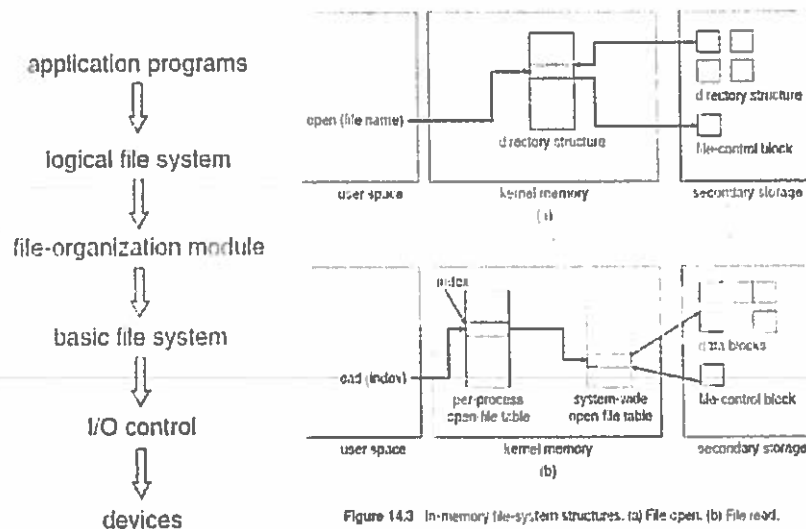

Figure 14.3 In-memory file-system structures. (a) File open. (b) File read.
- Figure 14.3 illustrates some of the interactions of file system components when files are created and/or used